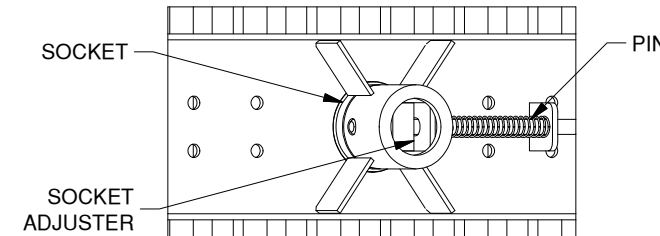

FIGURE C1: Typical view of Turnoverball gooseneck center under bed.
**WARNING:** Check the latch pin under the truck. Make sure that the latch pin has passed through both sides of the socket and that the pin is covered up inside the socket by the socket adjuster, see figure C1.